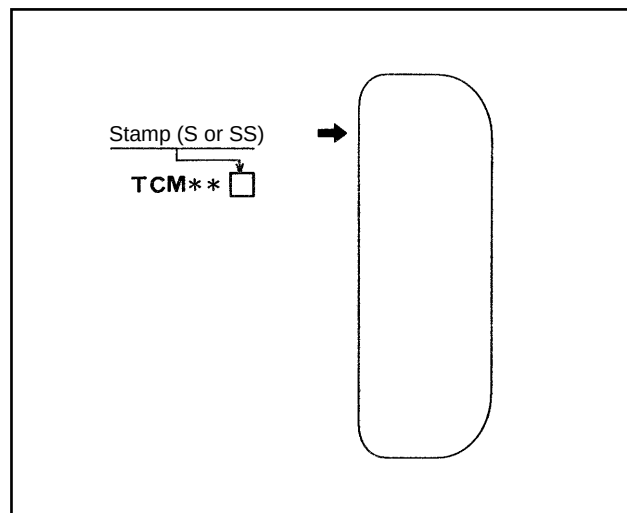

Fig. 8.12
- (7) Replacing end rollers
- ① Remove upper end rollers with a puller, keeping shims.
- ② Install new end rollers with the shims removed in step ①. Check for the stamp of S or SS and install the roller which is marked the same stamp, pointing the stamp side to the inner channel side. (See Figure 8.12.)
- ③ Replace the lower end rollers, using same procedure as above. In this step, point the stamp side to the outer channel side.
- (8) Operate the crane to hoist the inner channel. Place each roller into the channels.
- (9) Install the lift cylinder and carriage in the reverse order of disassembly.